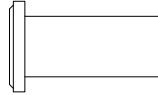

FIG.3.
- Attach the Allen bolt 1"(25 mm)(K) and Nut 3/4"(20 mm)(L) on the lowest hole of Sideboard.
- Final position as shown in FIG.3.